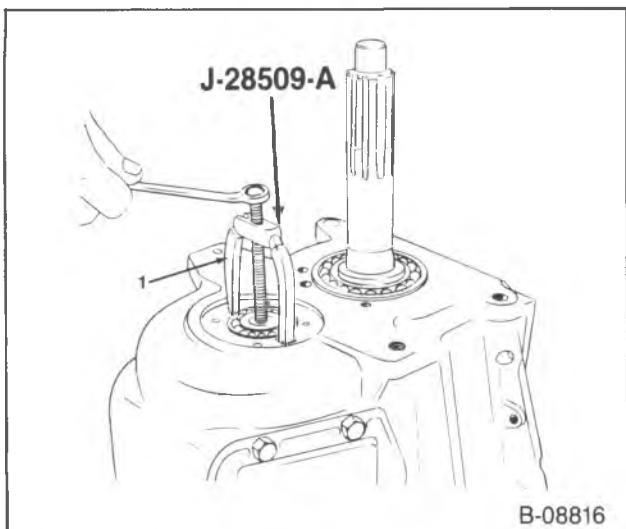

Figure 23—Removing the Countergear Front Bearing
- 2. Flange nut (221).
- 3. Brake drum and the flange, or the yoke (220).
- Mainshaft lock nut (256) and the washer using J-35907 (4WD models only).
- 5. Rear bearing retainer (223) and the gasket.
- 6. Speedometer gear (219).
7. Front bearing retainer (202) and the gasket.
8. Cover (238) and the gasket.
9. Bearing (237), using J-28509-A (figure 23).